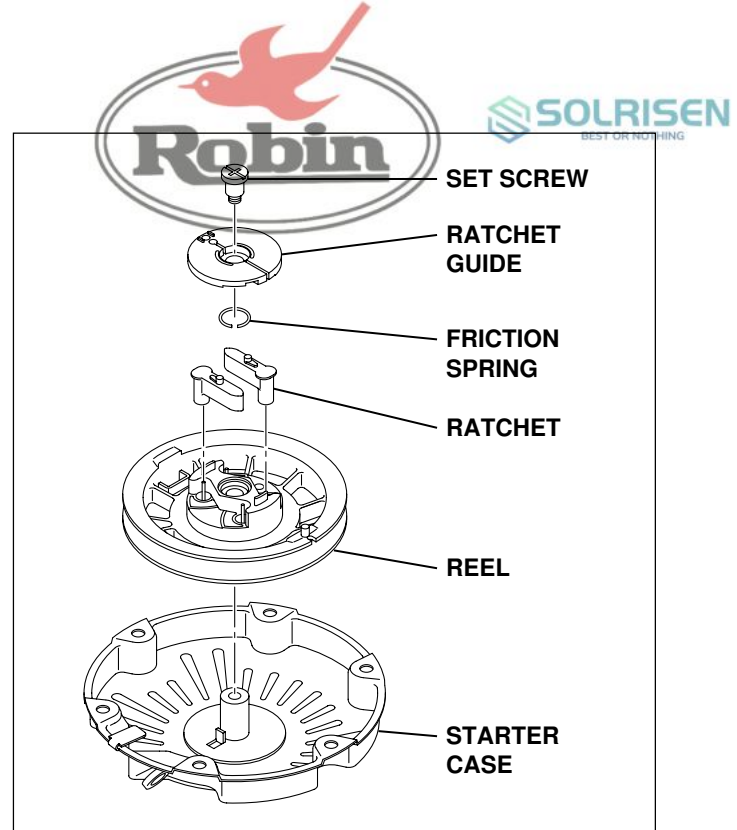

Fig. 9-2
(2) Setting the attachments off (Fig. 9-2)
(3) Setting the reel off (Fig. 9-2)
- 3 : In case the spring in the reel is close to pop up, redo the steps of (3)-1 and (3)-2 again.